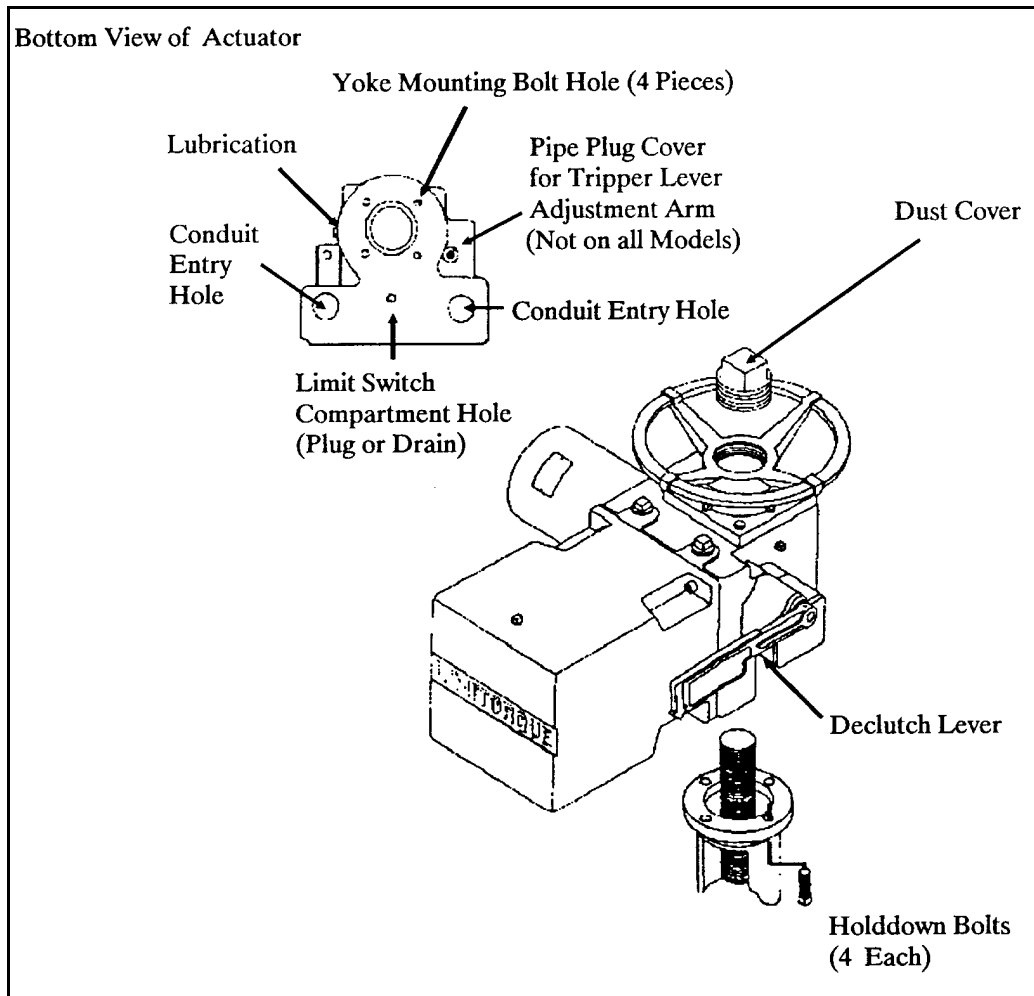

Figure 4-11 Actuators Fasteners and Dust Cover Removal
23. Remove the four actuator to valve yoke fasteners. (Figure 4-11)
24. Depress the declutch lever. (Figure 4-11)